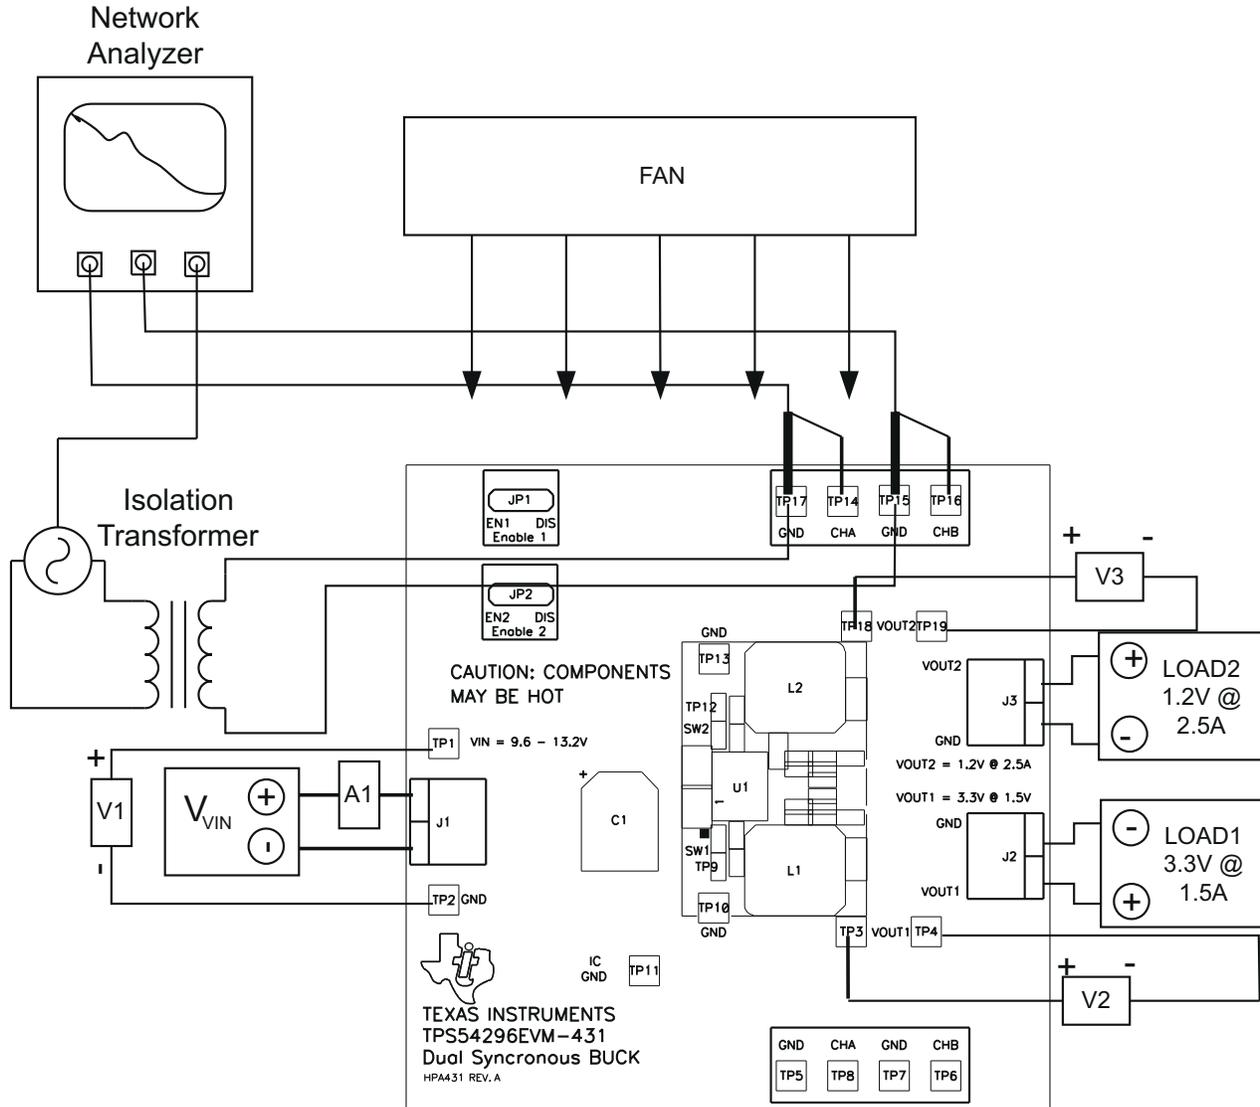

Figure 4-3. Control Loop Measurement Setup
1. Connect a 1-kHz to 1-MHz isolation transformer to TP6 and TP8 as shown in Figure 4-3
2. Connect the input signal amplitude measurement probe (Channel A) to TP8 as shown in Figure 4-3.
3. Connect output signal amplitude measurement probe (Channel B) to TP6 as shown in Figure 4-3.
4. Connect ground lead of Channel A and Channel B to TP5 and TP7 as shown in Figure 4-3.